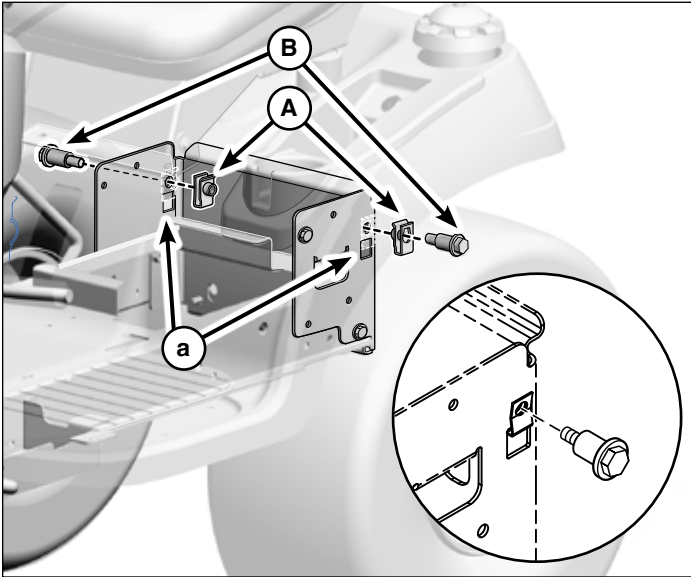

Figure 1
1. Install the speed nuts (**A**, Figure 1) into the square holes (**a**) of the rear frame support. The threaded side of speed nut is installed on the inside of the frame support.